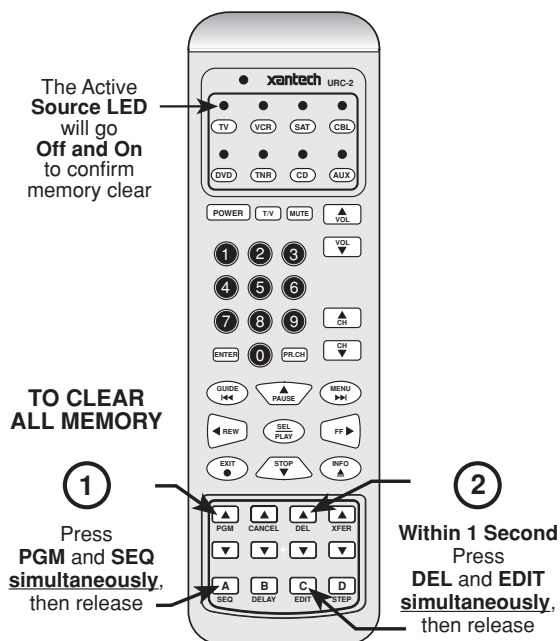

Fig. 12
If, for any reason, you wish to clear all programming from the unit, press the **PGM** and the **SEQ** keys **simultaneously**, then release. Within 1 second, **simultaneously** press the **DEL** and **EDIT** keys and release. Refer to **Fig. 12**. The active Source (bank) LED will blink once to confirm the action.
- a) Do a Clear Memory procedure on the 2nd URC-2 (**Fig. 12**).